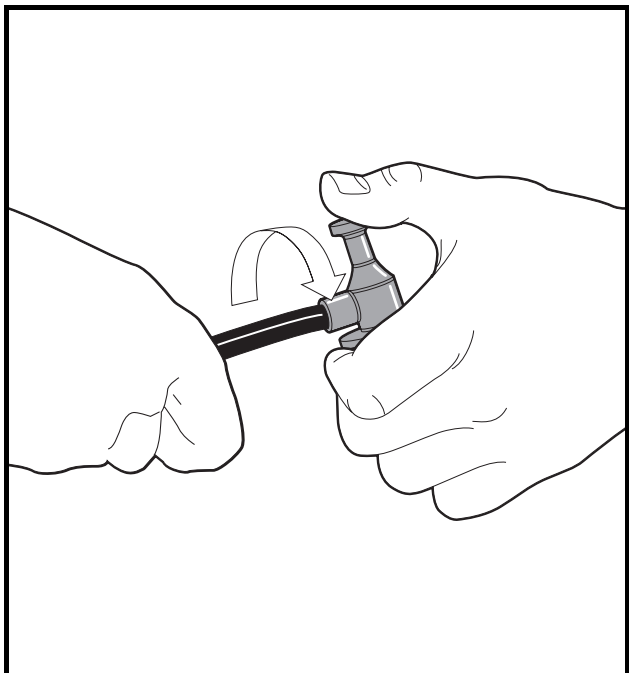

Figure 11-27 Spark Plug Cap Removal
- 5.2. Remove the cap from the wire by turning the cap counterclockwise three or four revolutions while gently pulling it off the wire (**Figure 11-27, Page 11-24**).
- 4.2. Remove the cap from the wire by turning the cap counterclockwise three or four revolutions while gently pulling it off the wire (**Figure 11-27, Page 11-24**).